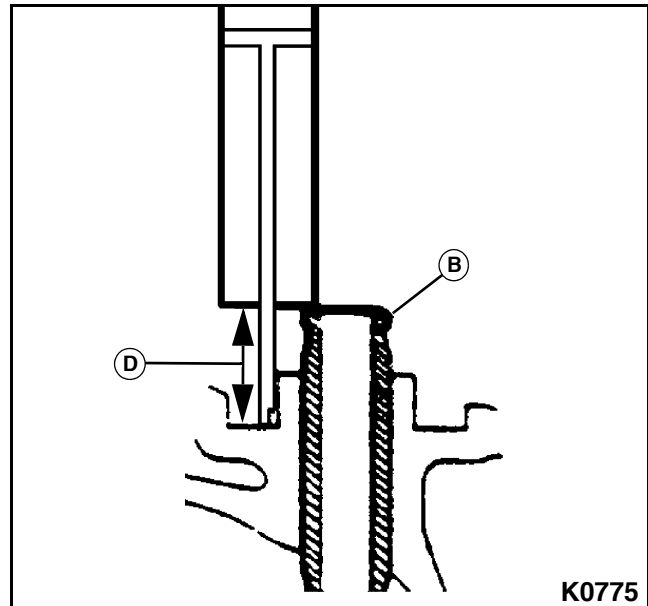

Figure 3-153; Installing the Valve Guides
3. Apply a light layer of assembly lubricant to the valve guide (B) and install the valve guide into the valve guide bore using the valve guide drive and a hammer. **See Figure 3-153.**
4. Drive the valve guide into the cylinder head until it has reached proper installed height (D).